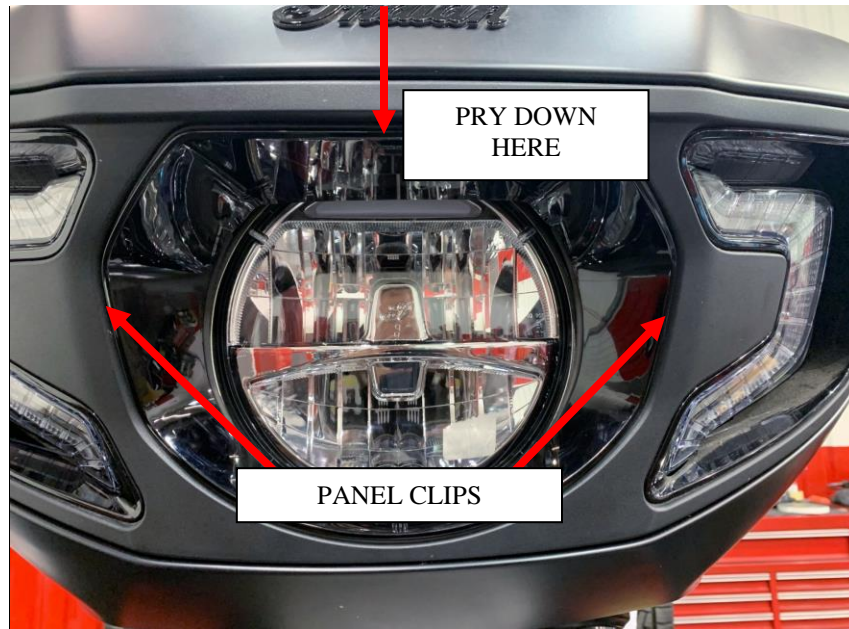
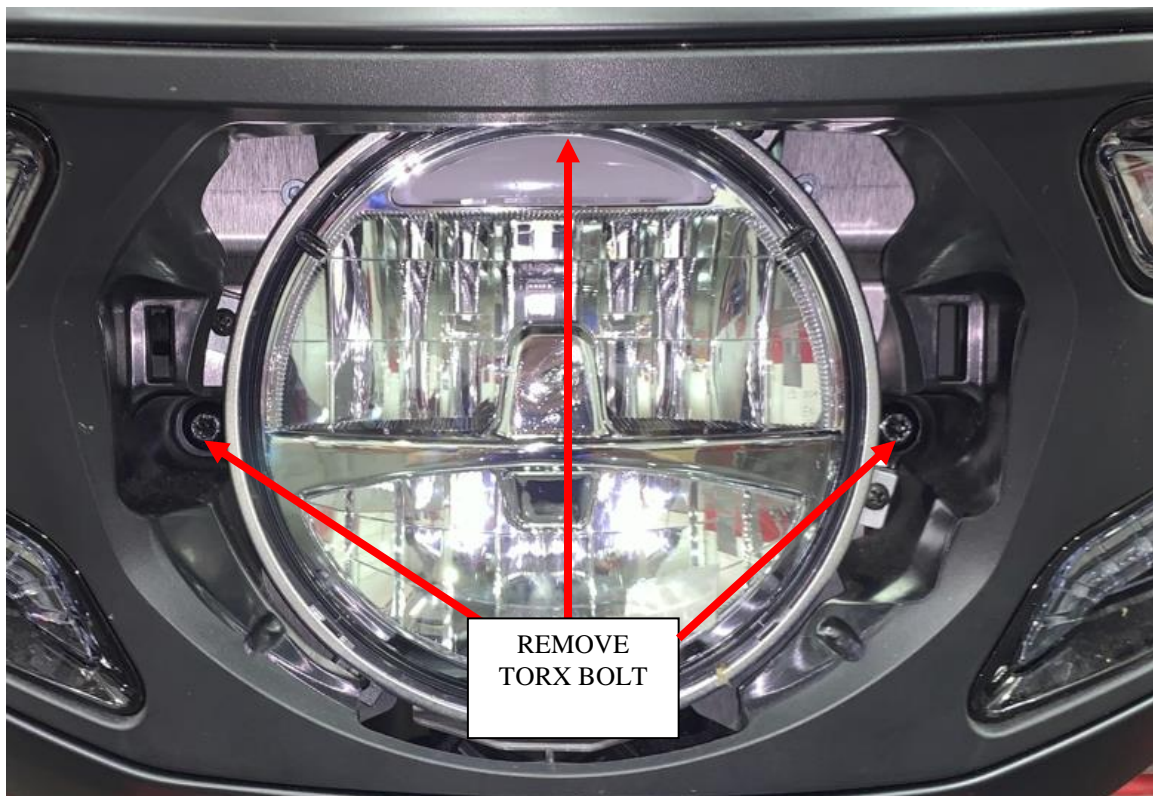
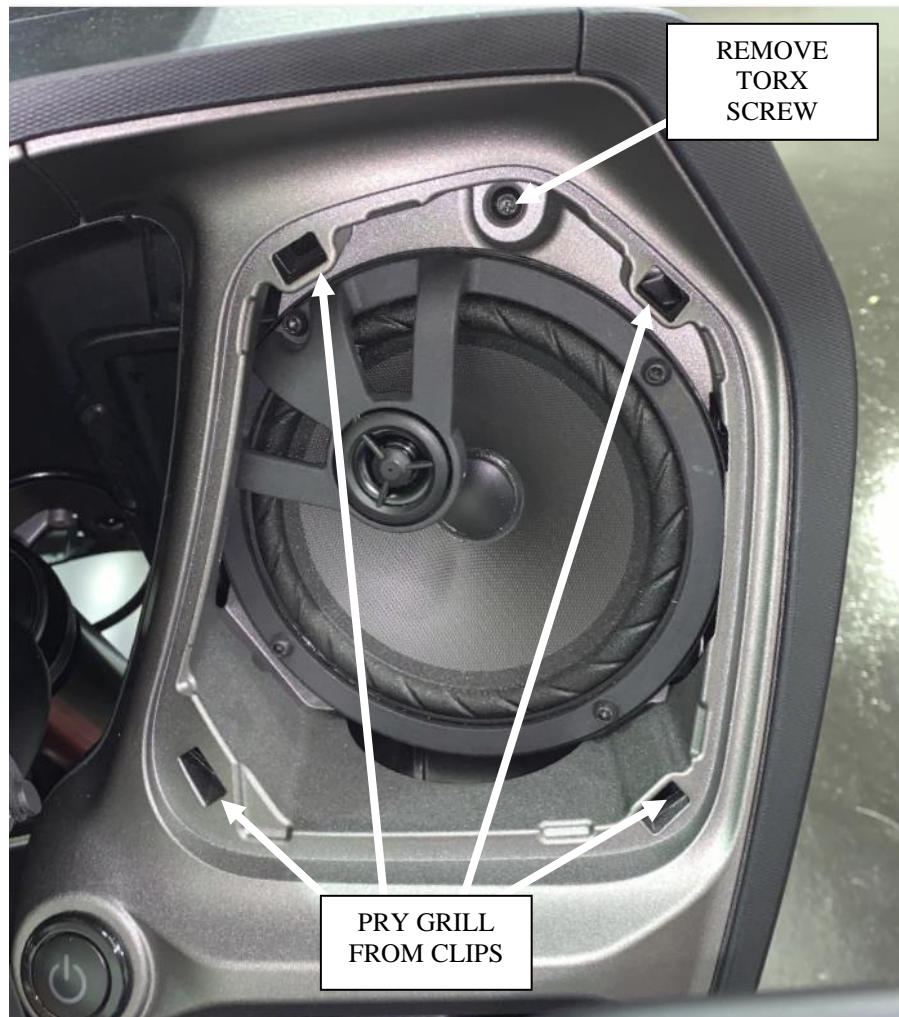
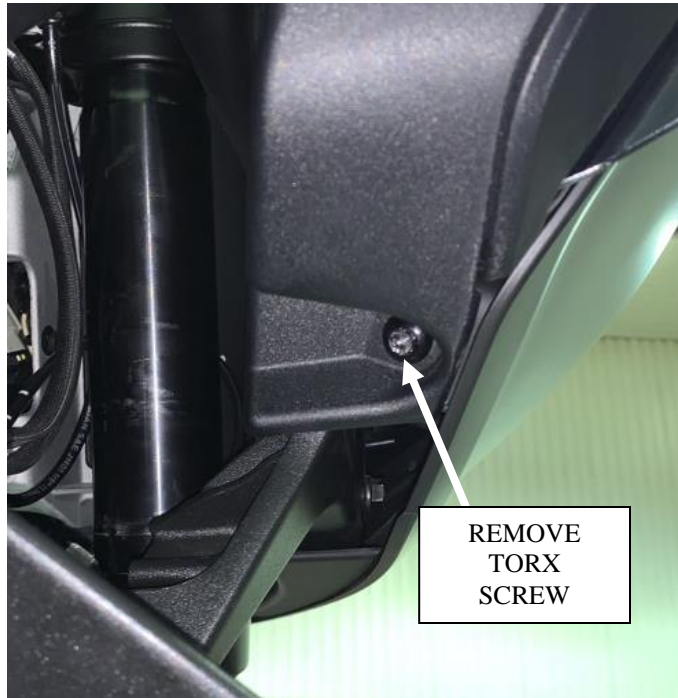

Figure 2: Pull the bezel off the front headlight.
Figure 3: Remove the torx fasteners under the headlight bezel.
Figure 6: Remove the speaker grills and torx fastener (right side shown, left side similar).
Figure 7: Remove torx fastener under fairing (right side shown, left side similar).
3. Remove the front headlight bezel by carefully prying down at the top center bezel edge. It is best to use a soft plastic tool to protect the finishes. The bezel is snapped into two panel clips on each side. See Figure 2.
4. Remove the 3 torx bolts from under the headlight bezel used to secure the outer fairing to the inner fairing. See Figure 3.
7. Pry the left and right speaker grills from the fairing. They are held in place with 4 panel clips each. It is best to use a soft plastic tool to protect the finishes. Remove the torx screw exposed near the top of the grill. See Figure 6.
8. Remove the torx screw from the underside of the fairing on the left and right sides. See Figure 7.
20. Install the outer fairing assembly. See Figure 2, Figure 3, Figure 4, Figure 5, Figure 6, Figure 7, and **Error! Reference source not found.**